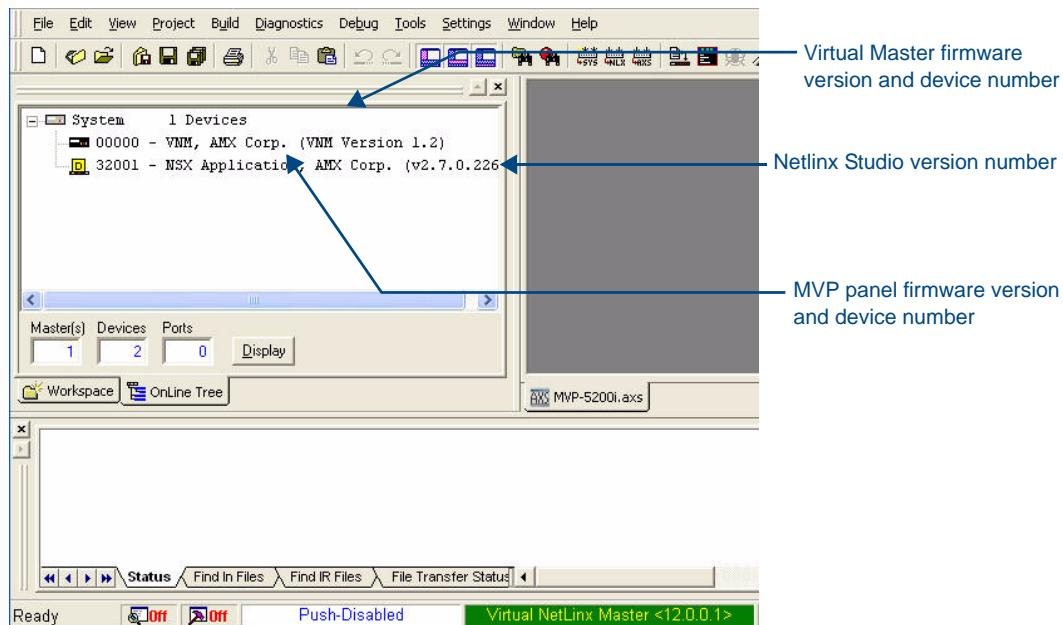

FIG. 74 NetLinx Workspace window (showing panel connection via a Virtual NetLinx Master)
3. After the *Communication Verification* dialog window verifies active communication between the Virtual Master and the panel, click the **OnLine Tree** tab in the Workspace window (FIG. 74) to view the devices on the Virtual System. *The default System value is 1.*
4. Right-click on the System entry (FIG. 74) and select **Refresh System** to re-populate the list. Verify the panel appears in the **OnLine Tree** tab of the Workspace window.